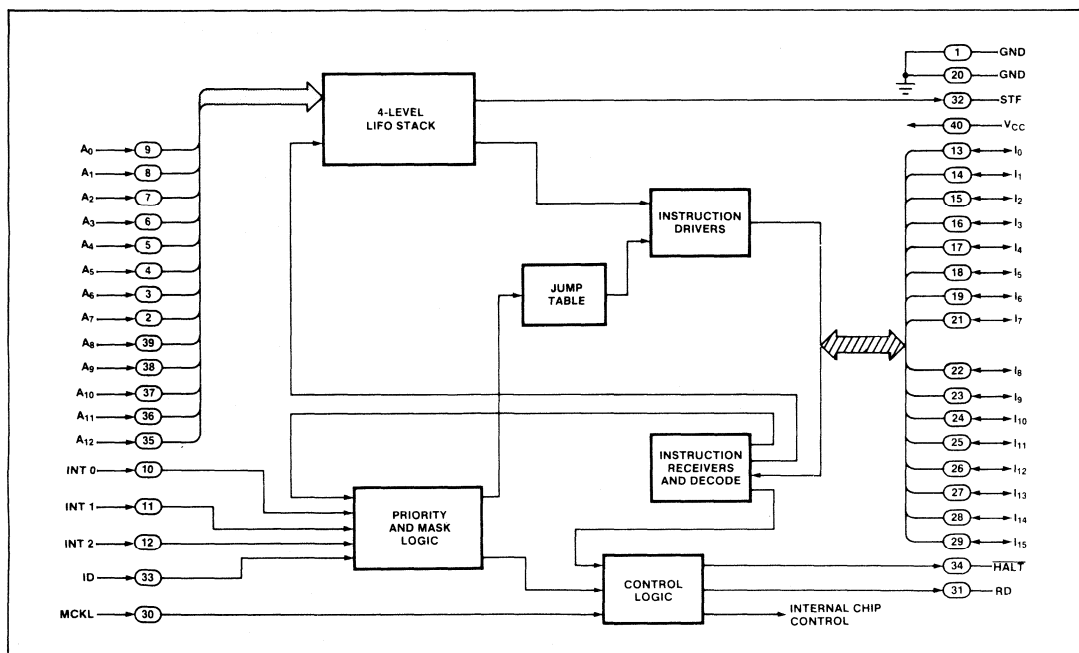

Figure 2. 8X310 Interrupt/Control Coprocessor — Functional Block Diagram
**Function 1:** Provides a means for the 8X305 MicroController to respond to interrupt requests by diverting the program flow of the 8X305 MicroController to the proper interrupt service routine or, in the case of a subroutine, the ICC stores the return address in the 4-level LIFO stack (Figure 2).
An interrupt is requested when any one of the ICC input pins INT 0, INT 1, or INT 2 undergoes a low-to-high transition; this request is temporarily stored in an internal edge-triggered latch that corresponds to the affected interrupt input. The interrupt request latches are part of the Priority and Mask Logic shown in Figure 2. Unless masked or otherwise disabled, the ICC samples these latches once each instruction cycle. Any or all of the latches may be set when sampled by the ICC; however, only the interrupt of
- Address of the instruction that would normally be executed next is pushed into the 4-level LIFO Stack (Figure 2) for subsequent return to the main program.